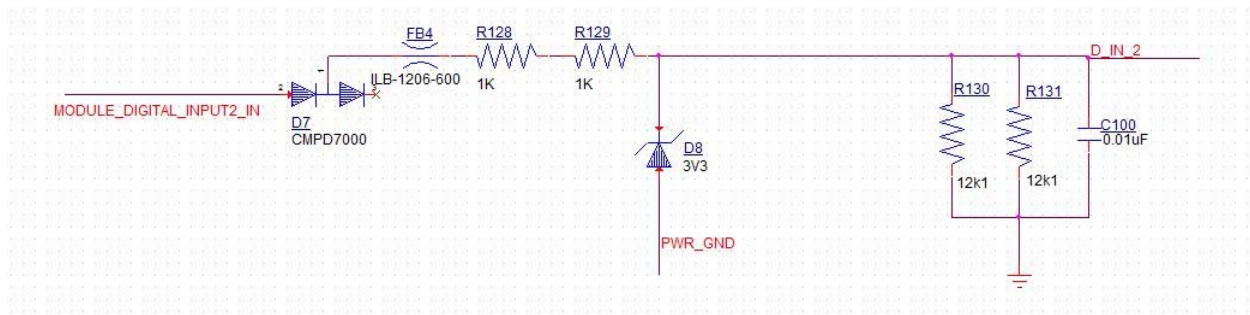
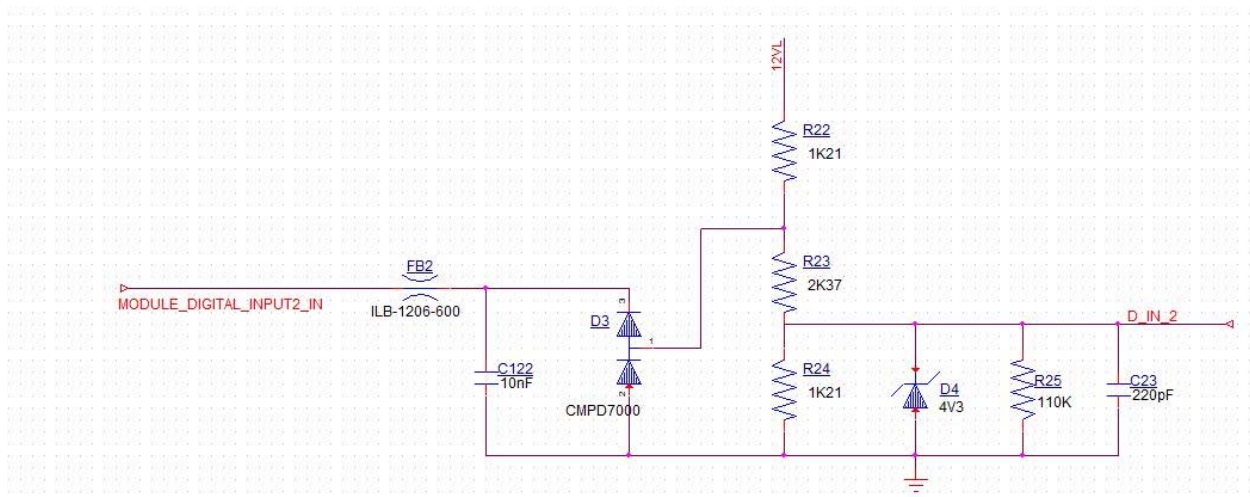

Figure 7: Digital input (active high) circuitry generation 2
Figure 8: Digital input (active low) circuitry generation 2
(2) Digital inputs require isolation if connected to active circuitry. Refer to schematic shown in Figure 7 and Figure 8.